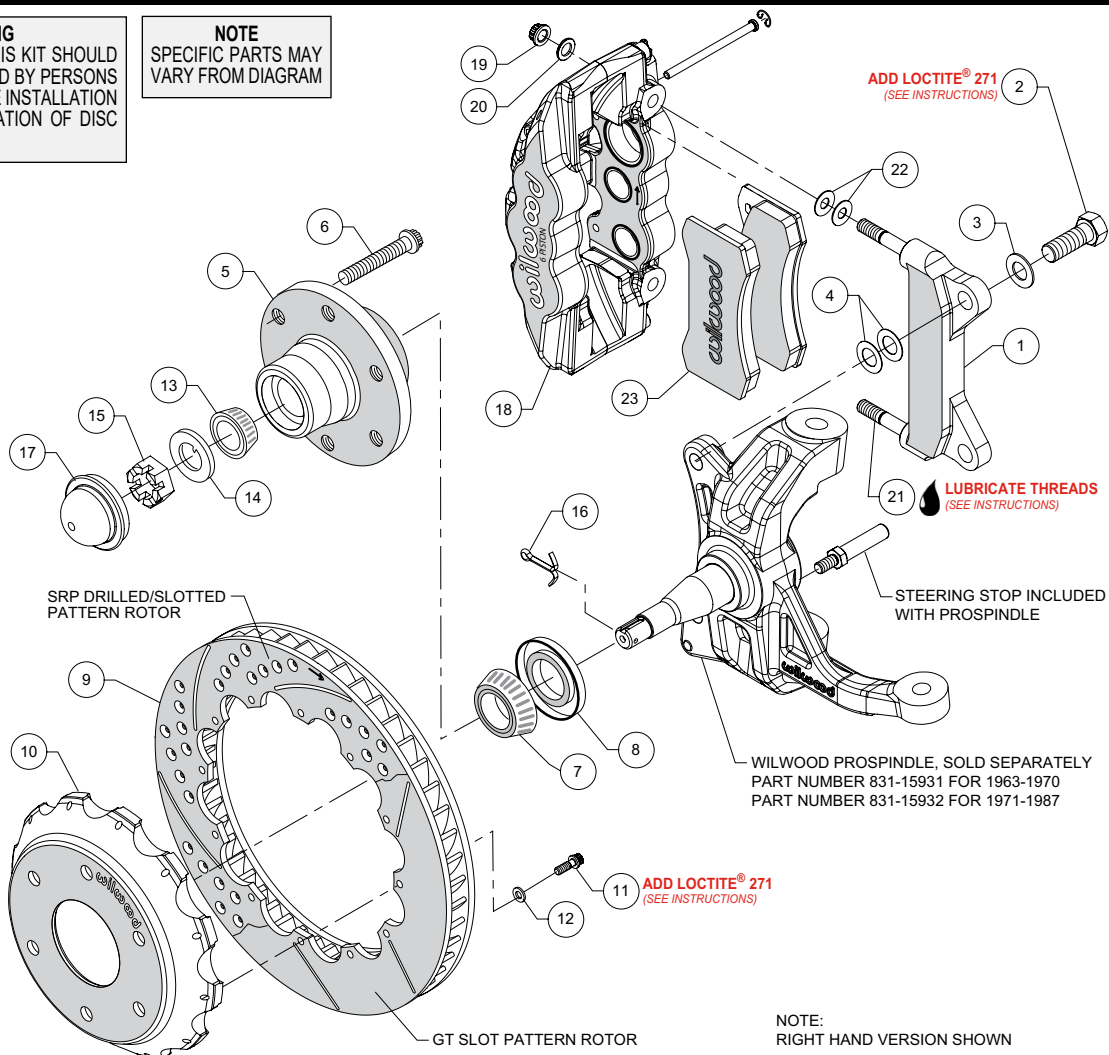
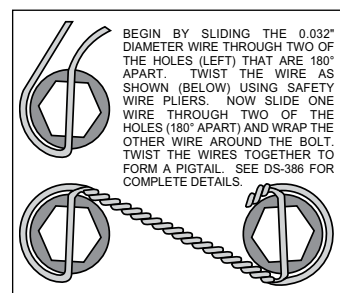

Figure 1. Typical Installation Configuration
Figure 3. Safety Wire Diagram
NOTE: Numbers in parenthesis refer to the parts list and Figure 1 on the preceding pages.
- Install the steering stop bolt (included with the ProSpindle) into the spindle as shown in Figure 1 and Photo 1. Torque to 25 ft-lbs.
- The caliper mount bracket (1) should initially be installed with clean, dry threads on the mounting bolts. Orient the bracket, as shown in Figure 1 and Photo 2, and install using bolts (2) and washers (3). Initially place two .024" thick shim (4) on each bolt between the bracket and spindle, Figure 1. Temporarily tighten the mounting bolts. **NOTE: The bracket must fit squarely against the mount bosses on the spindle.** Inspect for interference from casting irregularities, machining ridges, burrs, etc. Later, after the caliper alignment has been checked, the mount bolts will be secured using red *Loctite*® 271.
- Install wheel studs (6) into the hub (5), Photo 3. Torque to 77 ft-lb.
- Pack the large inner bearing cone (7) with high temperature disc brake bearing grease (available from your local auto parts store) and install into the backside of the hub (5), Photo 4.
- Install the grease seal (8) by pressing into the backside of the hub (5), flush with the end of the hub, Photo 5.
- Pack the small outer bearing cone (13) with high temperature disc brake bearing grease and install into hub (5). Slide the hub assembly onto the spindle. Secure using spindle washer (14) and spindle nut (15), Photo 6. Adjust bearings per OEM specifications. Install a new cotter pin (16).
- Press the dust cap (17) into the hub (5). **NOTE: Do not hammer center of cap. Install using outer flange only.**
- Orient the rotor (9) and the hat (10) as shown in Figure 1 and Photo 7. Attach rotor to hat using bolts (11) and washers (12). Using an alternating sequence, apply red *Loctite*® 271 to the threads, and torque to 155 **in-lbs**. For an added measure of security, the bolts may be safety wired using standard 0.032 inch diameter stainless steel safety wire as shown in Figure 3. Refer to Wilwood's data sheet DS-386 (available at www.wilwood.com/Pdf/DataSheets/ds386.pdf) for complete safety wire installation instructions.
- Slide the hat/rotor assembly (10 and 9) onto the hub (5), Photo 8. **NOTE: The hat must fit flush against the hub face or excessive rotor run out may result.** Install three lug nuts (finger tight) to keep the hat/rotor assembly in place while continuing with the installation, Photo 8.
- **NOTE: This kit contains distinct right and left hand calipers that must be mounted in a specific direction, as described below.** Lubricate the caliper mounting studs (21) with lightweight oil.
Initially place two .030" thick shims (22) on each stud between the caliper and the bracket, as shown in Figure 1 and Photo 9. Mount the caliper (18) onto the bracket (1) using lock nuts (19) and washers (20), Figure 1. Temporarily tighten the lock nuts. Ensure that the caliper is mounted so that the largest pistons are at the rotor exit end of the caliper, in relation to the direction of rotor rotation. View the rotor through the top opening of the caliper. The rotor should be centered in the caliper, Photo 10. If not, adjust by adding or subtracting shims (4) between the bracket and the spindle. Always use the same amount of shims on each of the two mounting bolts. Once the caliper alignment is correct, remove the bracket mounting bolts one at a time, apply red *Loctite*® 271 to the threads, and torque to 140 ft-lb.
- Remove the caliper (18), then remove the two pad retaining pins from the caliper by carefully popping out the pin retaining clips and sliding out the pins. Insert the brake pads (23) into the caliper from the bottom, Figure 1 and Photo 11. With the friction material facing the rotor, secure the brake pads in place with the pad retaining pins and clips, Photo 12. Reinstall the caliper onto the caliper mounting bracket and temporarily tighten the lock nuts. Check that the top of the brake pad is flush with the outside diameter of the rotor, Photo 13. If not, adjust by adding or subtracting shims (22) between the caliper and the bracket. After the caliper pad height is set, torque the caliper lock nuts (19) to 47 ft-lb.